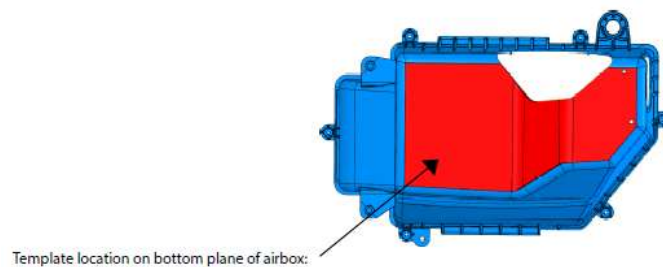

Figure 7
3. Apply provided Trim Template to lower air box and cut remaining trim lines. (fig. 7) \*Diesel Only\*